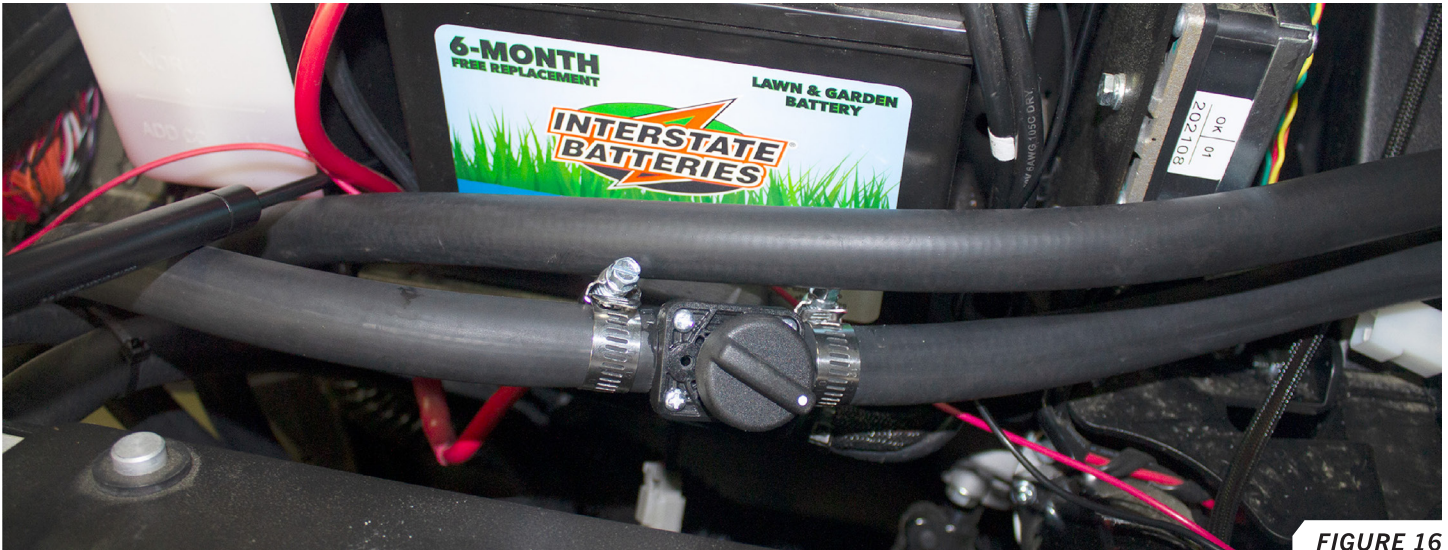

FIGURE 16
42. Install the shut off valve and secure with #10 hose clamps. *FIGURE 16*